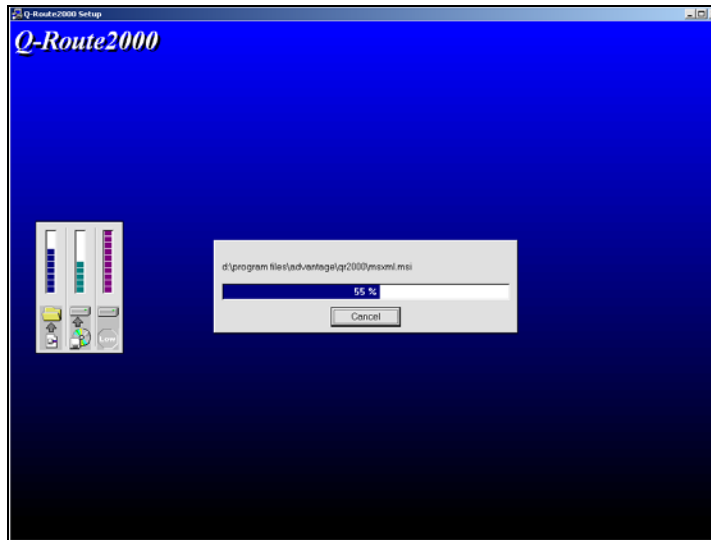

Figure 2.05
7. To continue with the installation, refer to **Figure 2.05** onward in the previous section — the procedure is exactly the same.